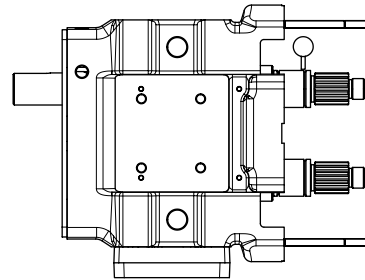

FIGURE 7
1. Check bearings for radial play using a dial indicator as shown. If indicator reading is equal to or greater than the rotor to body clearance in Table 6 under **Standard Clearances**, replace bearings. See Figure 7.